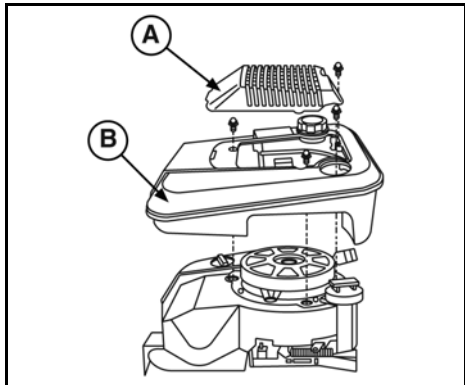

Figure 12
3. Install the screws to the finger guard (A, Figure 12) and the fuel tank (B), torquing screws to values listed in Section 12 - Engine Specifications.